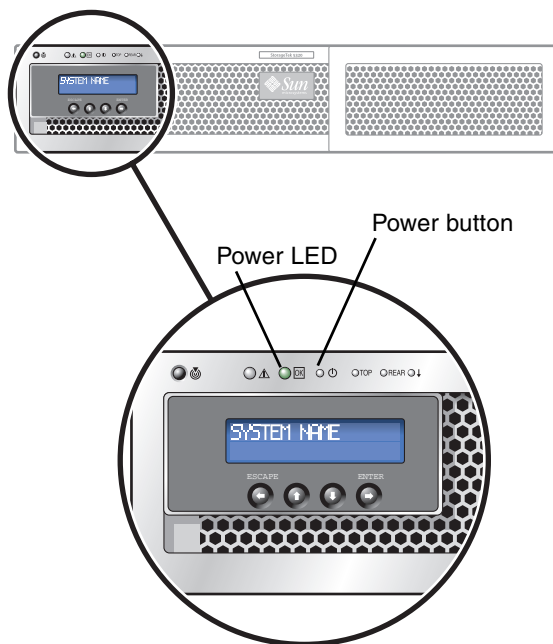

FIGURE 5-29 Power Button and Front Panel Detail
4. Using a pen tip or similar implement, press the recessed Power button (FIGURE 5-29).